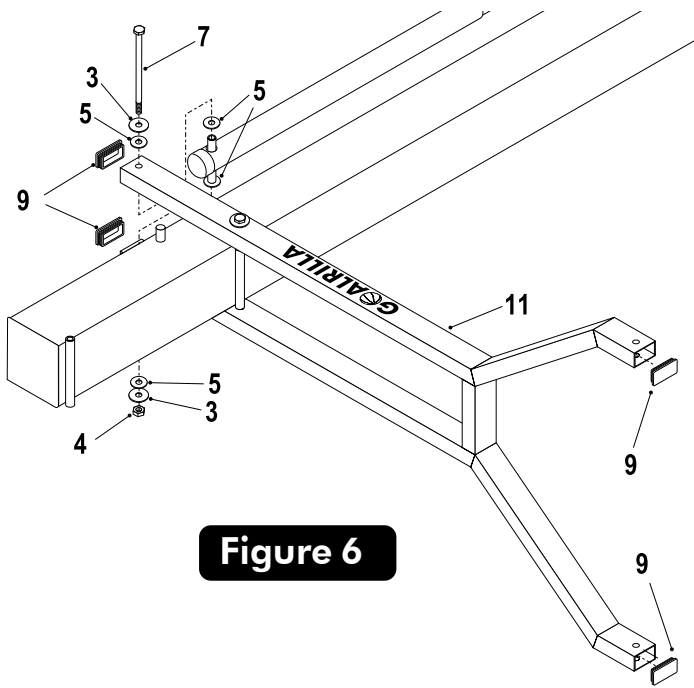

Figure 6
- Secure Actuator (#16) to Lower Arm (#11) using one bolt (#7), two flatwashers (#3), four plastic washers (#5) and one hex nut (#4). See Figure 6. Tighten both bolts (#7) securing Lower Arm (#11).